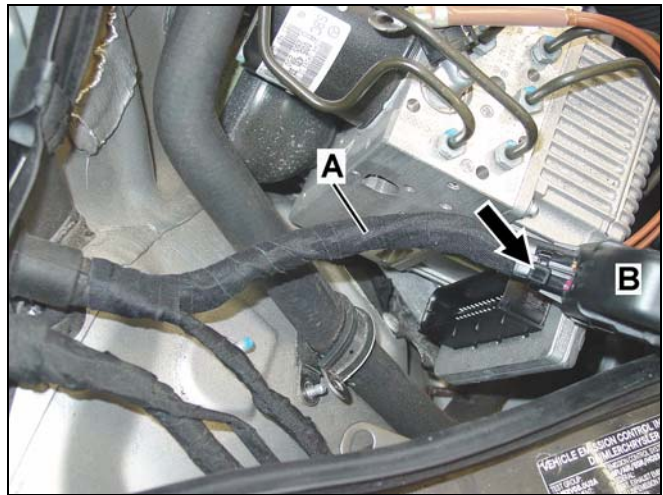

Figure 4
5. Remove cable tie (arrow, Figure 4) securing SBC wire harness (A) to SBC connector housing (B).